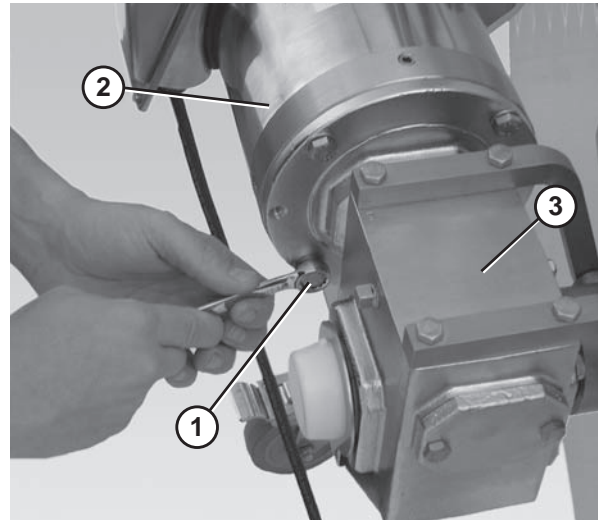

Figure 16
1. Remove the bolts (**Figure 16, item 1**) that connect the motor (**Figure 16, item 2**) to the gear reducer (**Figure 16, item 3**).